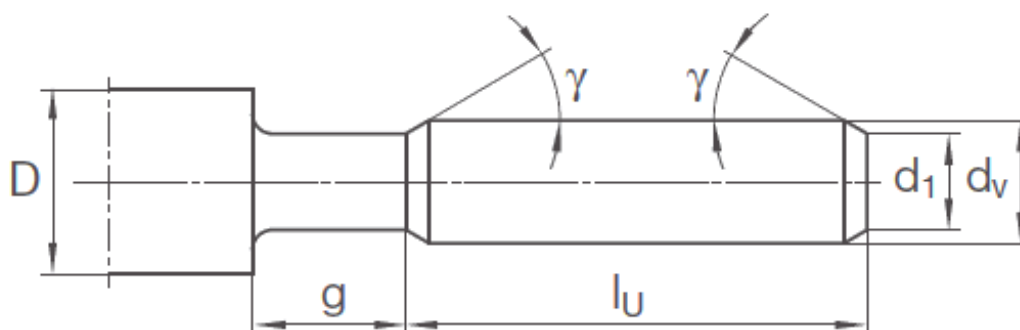

Figure 15: Preparing the work piece with undercut (thread runout)
Perform the chamfering in accordance with figure 15:
5. Perform the undercut and the two chamfers according to figure 15.